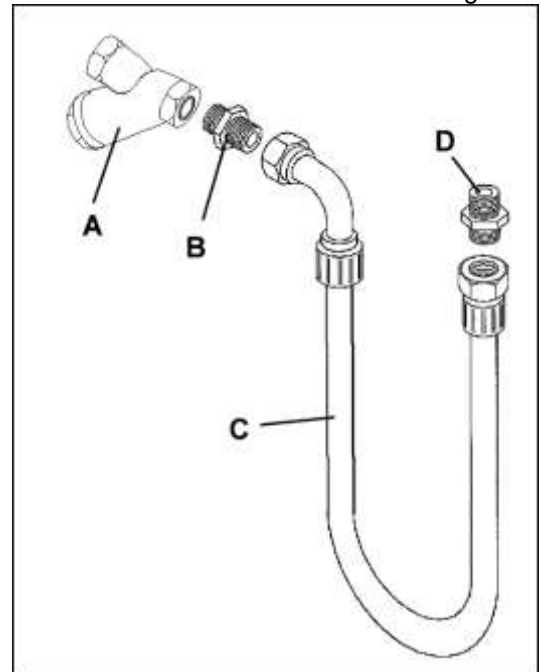

Fig. 3.11
**Connection of the machine to the steam installation (Fig. 3.11)**